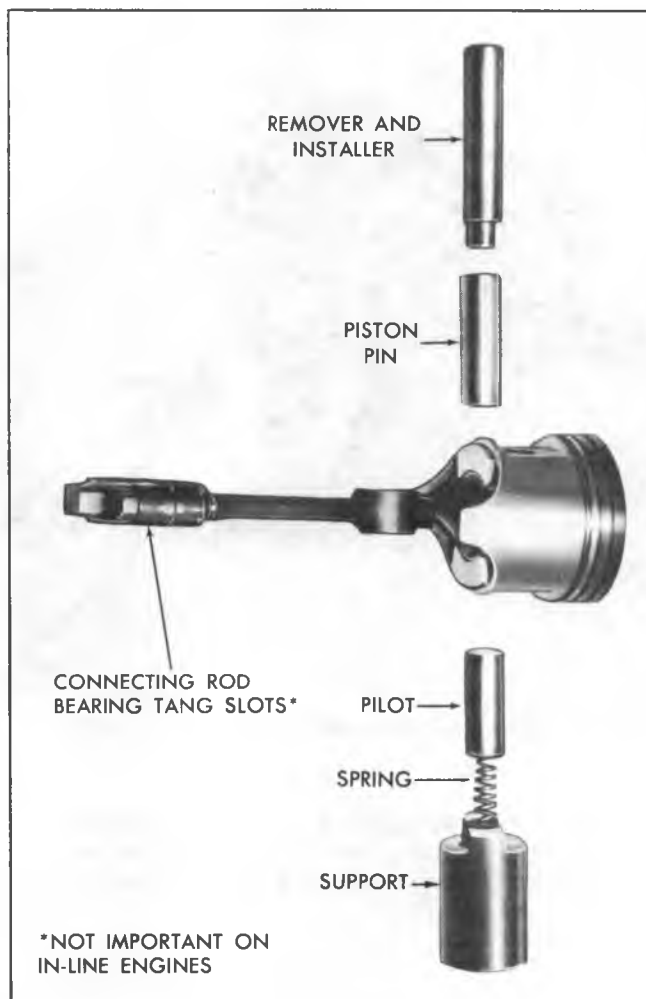
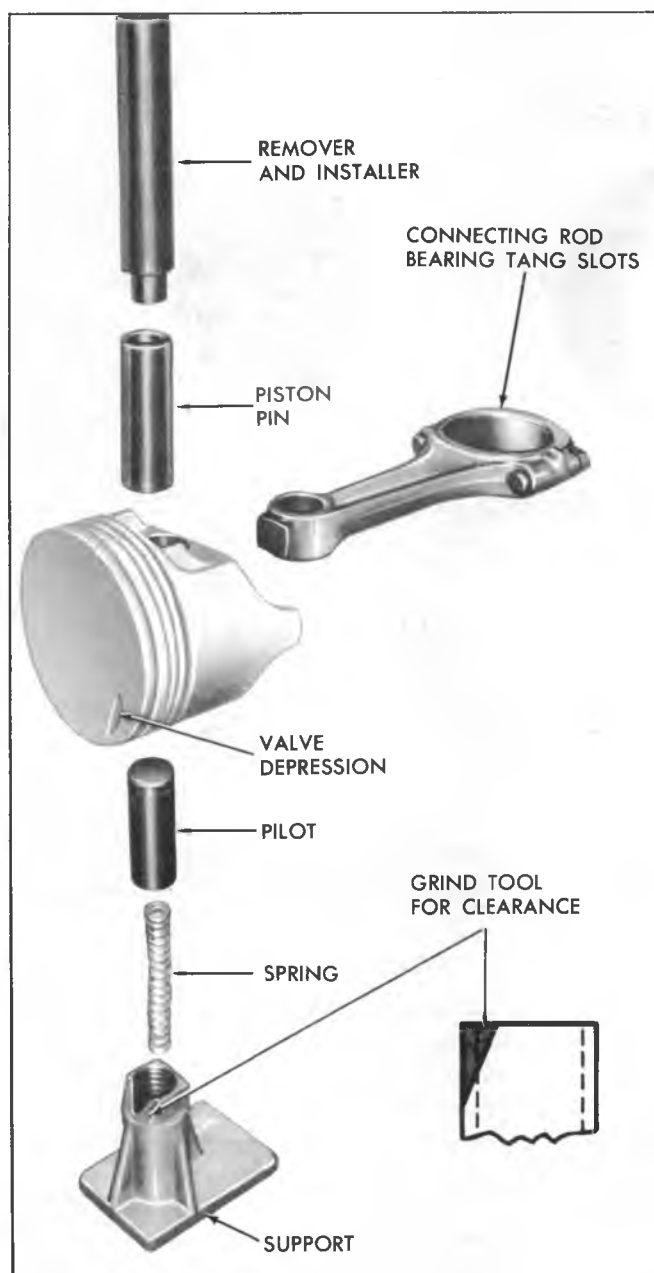

Fig. 53--Piston Pin and Tool Layout (In-Line and "Small V8")
Fig. 54--Piston Pin and Tool Layout ("Mark IV V8")
2. Using Tool J-9510 for In-Line and "Small V8" (fig. 53) or Tool J-6994 for "Mark IV V8" (fig. 54) place Support with spring and pilot in place on an arbor press.
3. Position piston on connecting rod with appropriate side of piston (fig. 55) and connecting rod bearing tangs aligned (fig. 53 or 54).